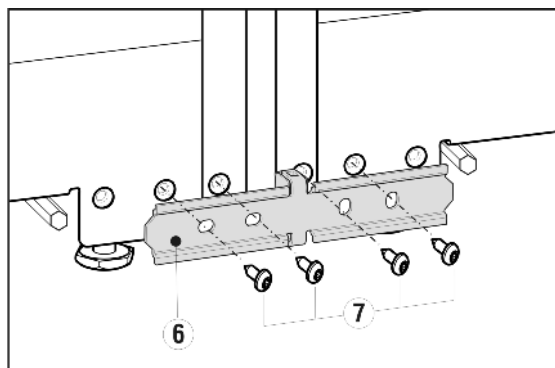

Fig. 4
- ▶ Press the appliances together and realign them and, using the accompanying screws Fig. 4 (7), firmly screw on the mounting bracket Fig. 4 (6).